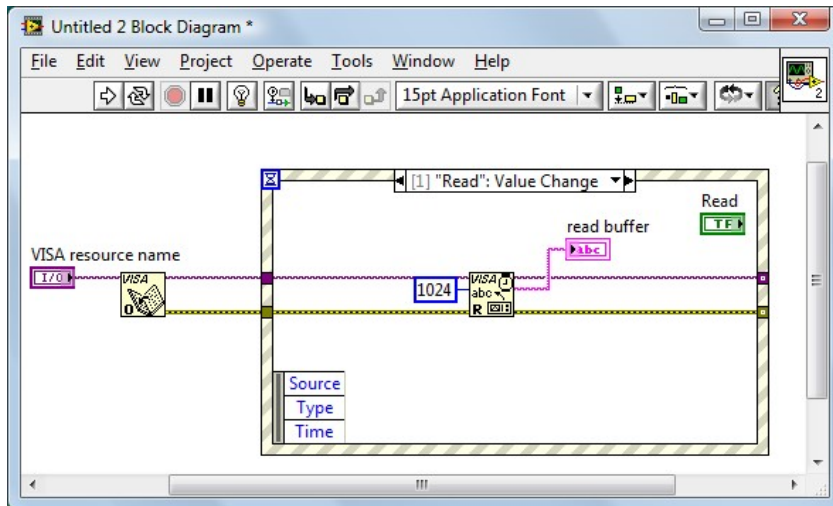

Figure 4-3-4
13. Wire the VISA resource out terminal of the VISA Open function to the VISA resource name terminal of the VISA Read function in the event structure; connect the error out terminal of the VISA Open function with the error in terminal of the VISA Read function shown as figure 4-3-4.